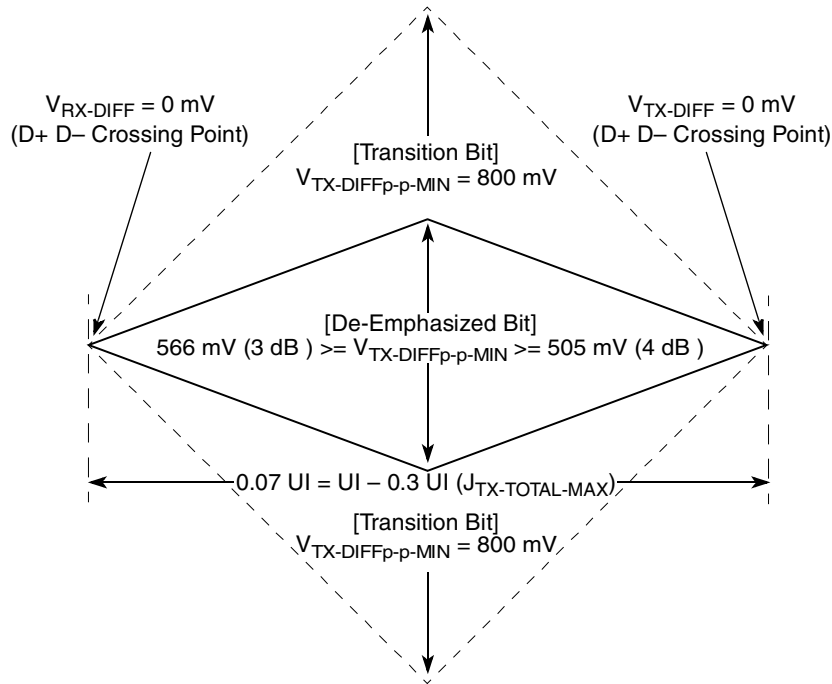
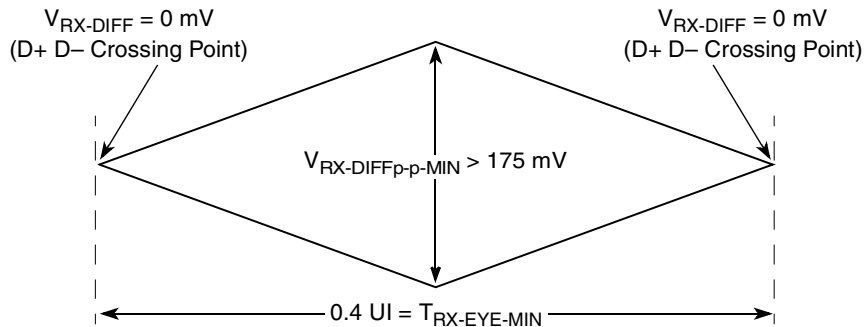
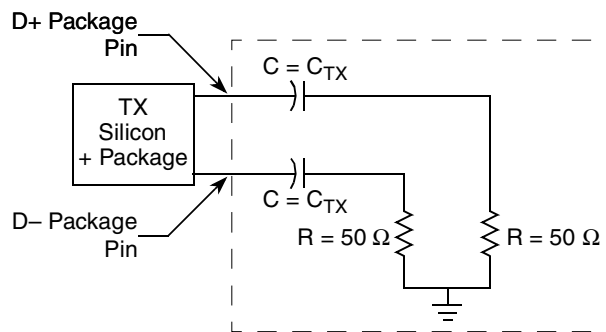

Figure 41. Minimum Transmitter Timing and Voltage Output Compliance Specifications
Figure 42. Minimum Receiver Eye Timing and Voltage Compliance Specification
Figure 43. Compliance Test/Measurement Load
- 2.) Specified at the measurement point into a timing and voltage compliance test load as shown in Figure 43 and measured over any 250 consecutive TX UIs. (Also refer to the transmitter compliance eye diagram shown in Figure 41.)
- 4.) The transmitter input impedance shall result in a differential return loss greater than or equal to 12 dB and a common mode return loss greater than or equal to 6 dB over a frequency range of 50 MHz to 1.25 GHz. This input impedance requirement applies to all valid input levels. The reference impedance for return loss measurements is 50 Ω to ground for both the D+ and D- line (that is, as measured by a vector network analyzer with 50- Ω probes—see Figure 43). Note that the series capacitors C_{TX} is optional for the return loss measurement.
- 5.) Measured between 20–80% at transmitter package pins into a test load as shown in Figure 43 for both $V_{\text{TX-D+}}$ and $V_{\text{TX-D-}}$.
The TX eye diagram in Figure 41 is specified using the passive compliance/test measurement load (see Figure 43) in place of any real PCI Express interconnect + RX component.
- 2.) Specified at the measurement point and measured over any 250 consecutive UIs. The test load in Figure 43 should be used as the RX device when taking measurements (also refer to the receiver compliance eye diagram shown in Figure 42). If the clocks to the RX and TX are not derived from the same reference clock, the TX UI recovered from 3500 consecutive UI must be used as a reference for the eye diagram.
- 4.) The receiver input impedance shall result in a differential return loss greater than or equal to 15 dB with the D+ line biased to 300 mV and the D- line biased to -300 mV and a common mode return loss greater than or equal to 6 dB (no bias required) over a frequency range of 50 MHz to 1.25 GHz. This input impedance requirement applies to all valid input levels. The reference impedance for return loss measurements for is 50 Ω to ground for both the D+ and D- line (that is, as measured by a Vector Network Analyzer with 50- Ω probes—see Figure 43). Note that the series capacitors CTX is optional for the return loss measurement.
The RX eye diagram in Figure 42 is specified using the passive compliance/test measurement load (see Figure 43) in place of any real PCI Express RX component.
Note: In general, the minimum receiver eye diagram measured with the compliance/test measurement load (see Figure 43) will be larger than the minimum receiver eye diagram measured over a range of systems at the input receiver of any real PCI Express component. The degraded eye diagram at the input receiver is due to traces internal to the package as well as silicon parasitic characteristics which cause the real PCI Express component to vary in impedance from the compliance/test measurement load. The input receiver eye diagram is implementation specific and is not specified. RX component designer should provide additional margin to adequately compensate for the degraded minimum receiver eye diagram (shown in Figure 42) expected at the input receiver based on some adequate combination of system simulations and the return loss measured looking into the RX package and silicon. The RX eye diagram must be aligned in time using the jitter median to locate the center of the eye diagram.
The reference impedance for return loss measurements is 50 Ω to ground for both the D+ and D- line (i.e., as measured by a vector network analyzer with 50-Ω probes—see Figure 43). Note that the series capacitors, CTX, are optional for the return loss measurement.
The AC timing and voltage parameters must be verified at the measurement point, as specified within 0.2 inches of the package pins, into a test/measurement load shown in Figure 43.